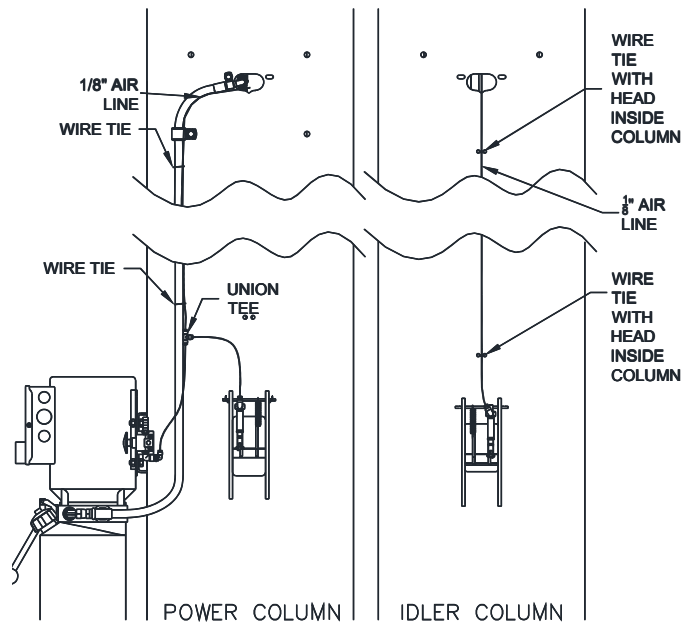

Fig. 17 – Lock Release
- 52) Connect the rest of the 1/8" air line to the top of the tee and run it along side the hydraulic hose up the column and across the overhead attaching it to the hydraulic hose with wire ties (**Fig. 17**).
and attach it to the idler side lock release air cylinder (**Fig. 17**).